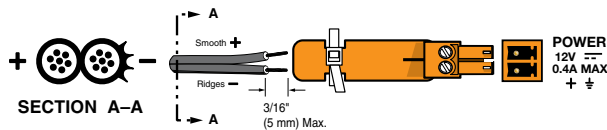

Figure 2. External Power Supply Connection
- A Power Connector** — Connect the included 12 VDC power supply to the orange, two-pole, 3.5 mm captive screw connector. Wire the power supply as shown in figure 2.